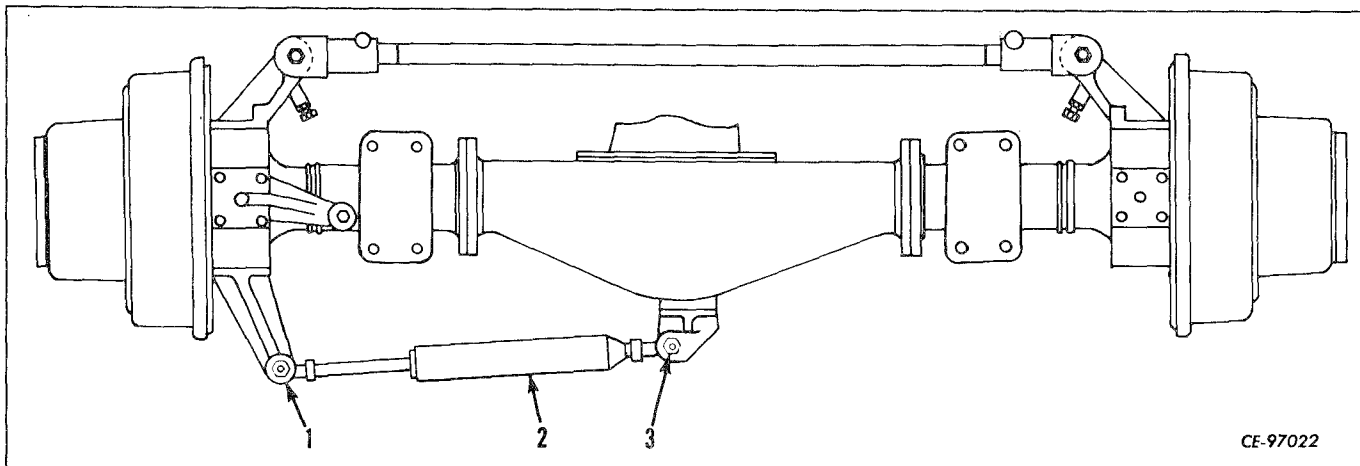

Figure 7-8
Install steering cylinder (2, Fig. 7-8) on axle assembly. Tighten stud nuts (3) on steering cylinder anchor to recommended torque (refer to "SPECIAL TORQUES").
Install remaining stud nut (1, Fig. 7-8) snugly but do not torque.
Tighten stud nut (1, Fig. 7-8) to recommended torque (refer to "SPECIAL TORQUES").